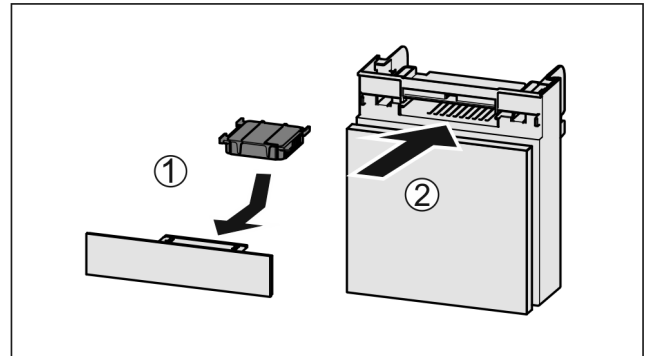

Fig. 154
- Insert the carbon filter as shown in the diagram Fig. 154 (1).
- Push the compartment in Fig. 154 (2).